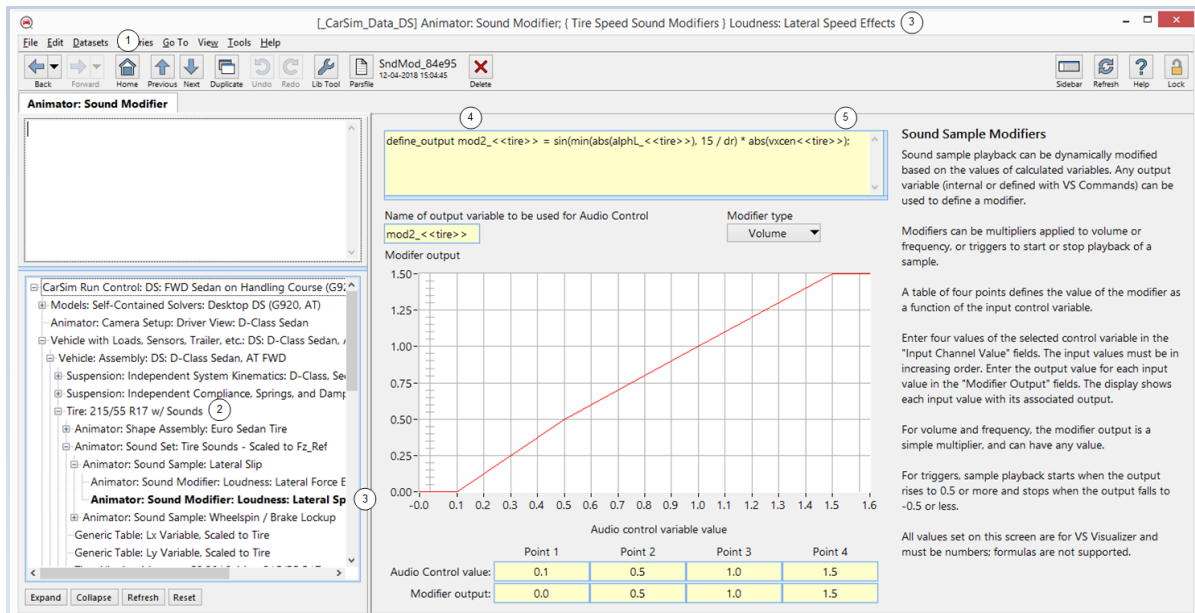

Figure 36. Animator: Sound Modifier dataset for Loudness: Lateral Speed Effects.
One of the **Animator: Sound Modifier** datasets included with Windows DS is used to represent the sound a tire makes when it is subjected to a lateral slip angle. A VS Command equation is used to calculate an output variable **mod2** (Figure 36, ④), which in turn is used by VSV.
As noted in Figure 36, there is a missing closing parenthesis (⑤). Based on the version of CarSim or TruckSim being used, the method of handling this is different.